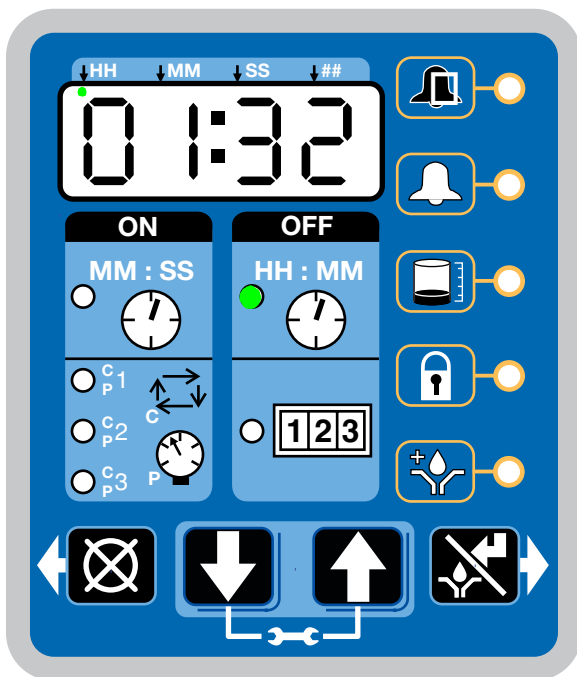

FIG. 47
After setup is complete, the G3 automatically begins to run the OFF Time sequence (FIG. 47).
- The example shown in FIG. 47 shows an OFF Time of 1 hour and 32 minutes before the lubrication cycle begins.
- When the ON Time count reaches zero, the pump shuts off again and the system again runs OFF Time cycle and the OFF Time LED is now again illuminated (FIG. 47).